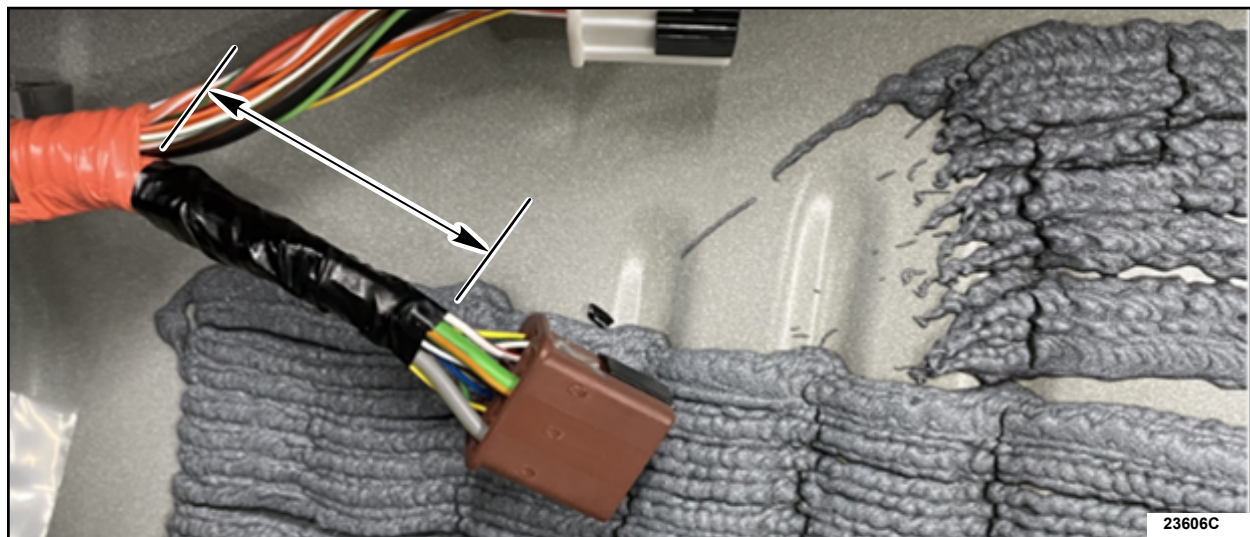

FIGURE 3
4. Unwrap the tape from the male end of the brown connector. See Figure 3.